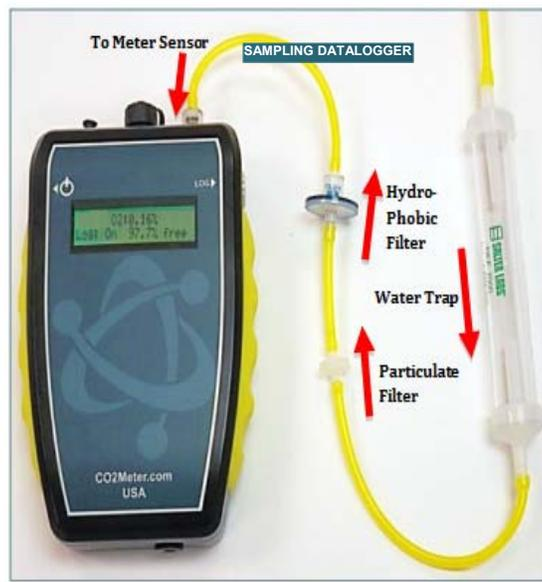

Figure 6: Filter Installation and Orientation
2. Install filters and tubing included as shown on *Figure 6*.